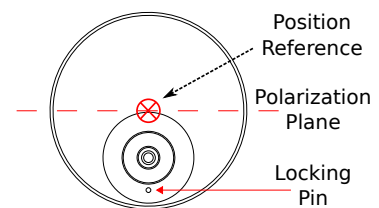

Figure 1.2: The reference point for mounting height measurement and radar position.
- The reference level for the mounting height of the radars is shown in Fig. 1.2.
- Figure 1.2, shows the polarization plane of the signal emitted from a radar antenna. If the WaveGuide radar is mounted close to a large vertical wall, then the radar should be mounted such that the polarization plane is parallel to the wall. That is to minimize the effect of the wall on the propagation of the signal. Nevertheless, the horizontal distance between the radar and the wall should comply with the previous criteria.